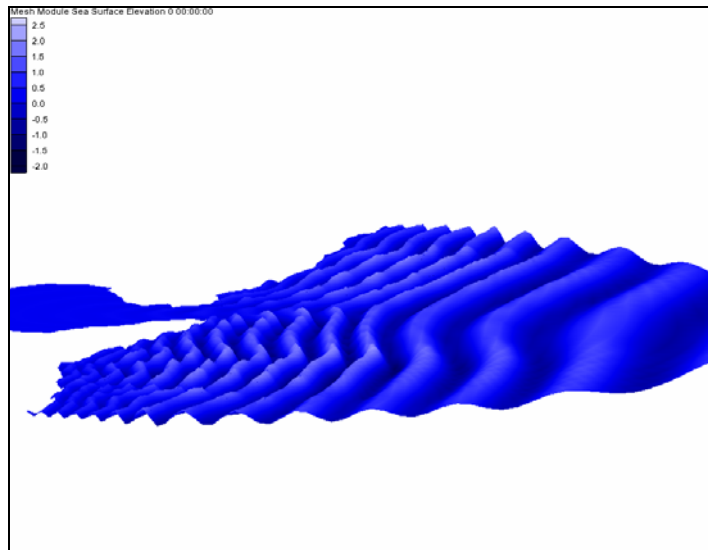

Figure 3 Functional surface.
9. Select the 'Particle Velocity @ Bed' vector mesh and the 'Sea Surface Elevation' scalar mesh. The display screen should now look like Figure 3.